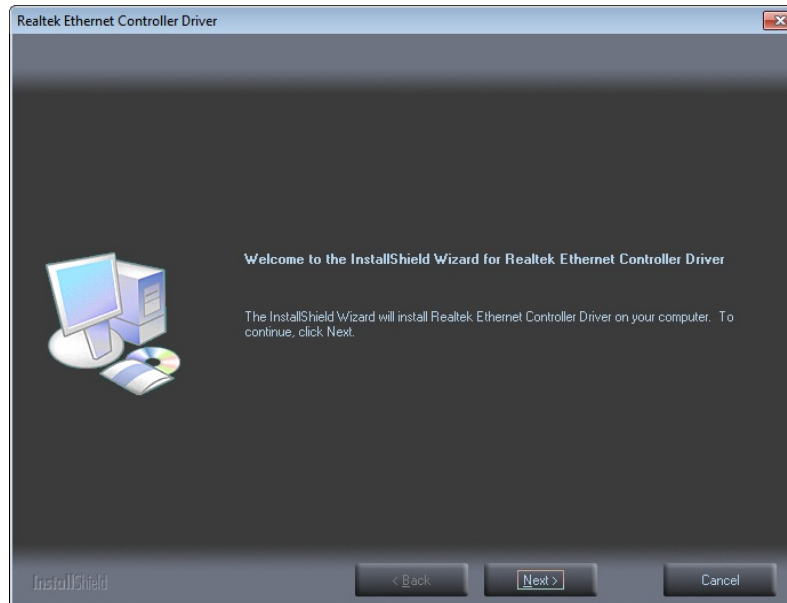

Figure 6-12: LAN Driver Welcome Screen
Step 5: The **Welcome** screen in **Figure 6-12** appears.